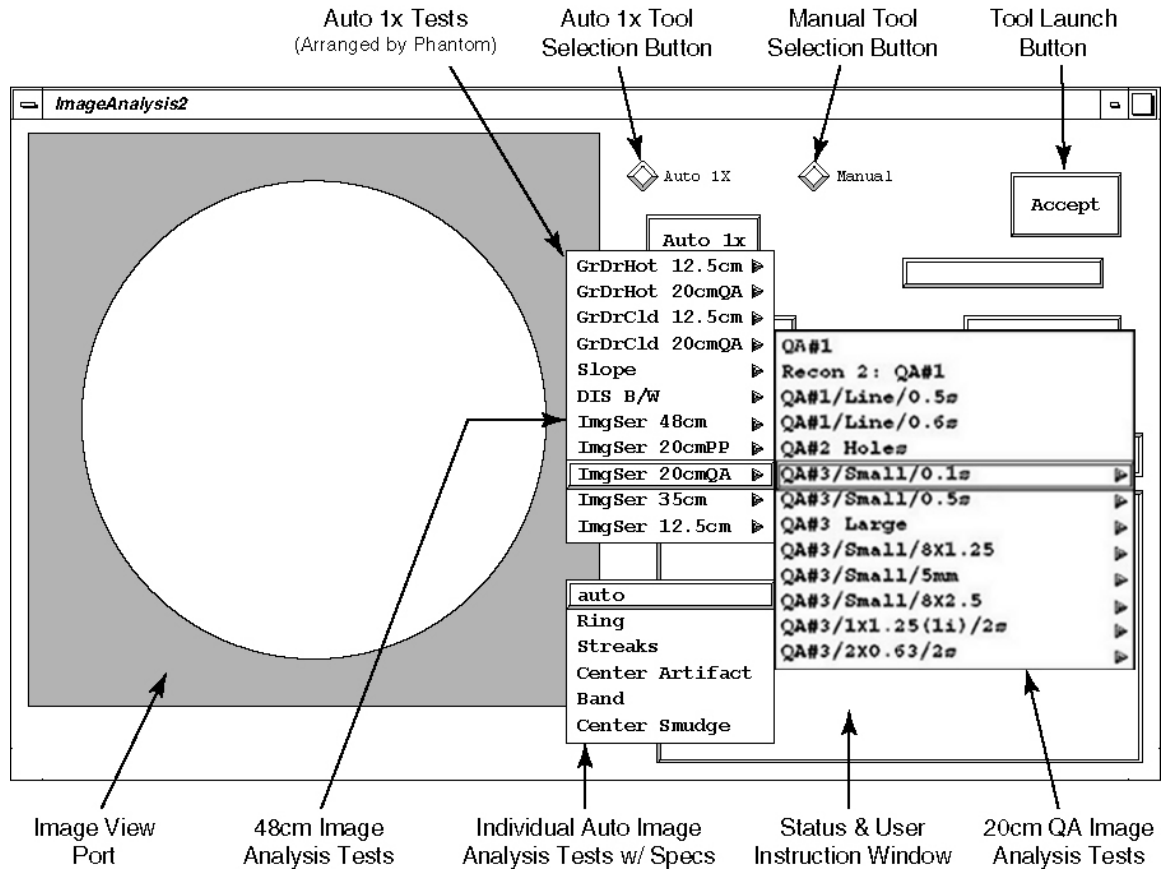

Figure 7-2 Image Analysis Tool User Interface - Auto 1x Test Pull Down Menu
- b.) On the Image Analysis Tool window, click on the AUTO 1X diamond shaped button. (See Figure 7-2, on page 392.)